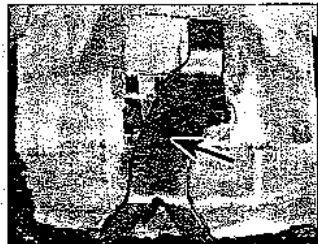

Fig. 13.68 Rear compartment heater duct (arrowed) (Sec 9B)
- 7 Remove the rear compartment heater duct (Fig. 13.68).